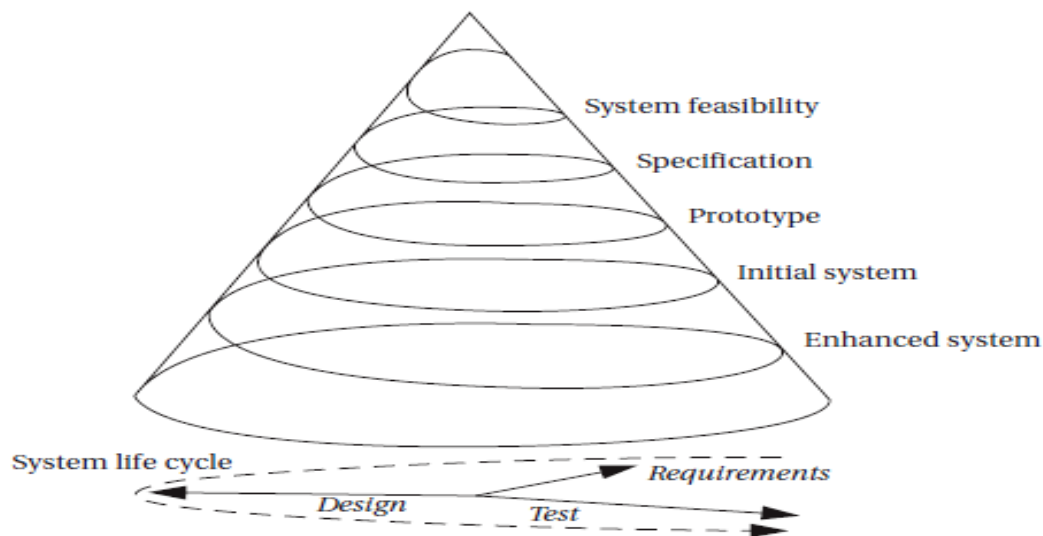

FIGURE 7.2
- ✓ Figure 7.2 illustrates an alternative model of software development, called the **spiral model**.